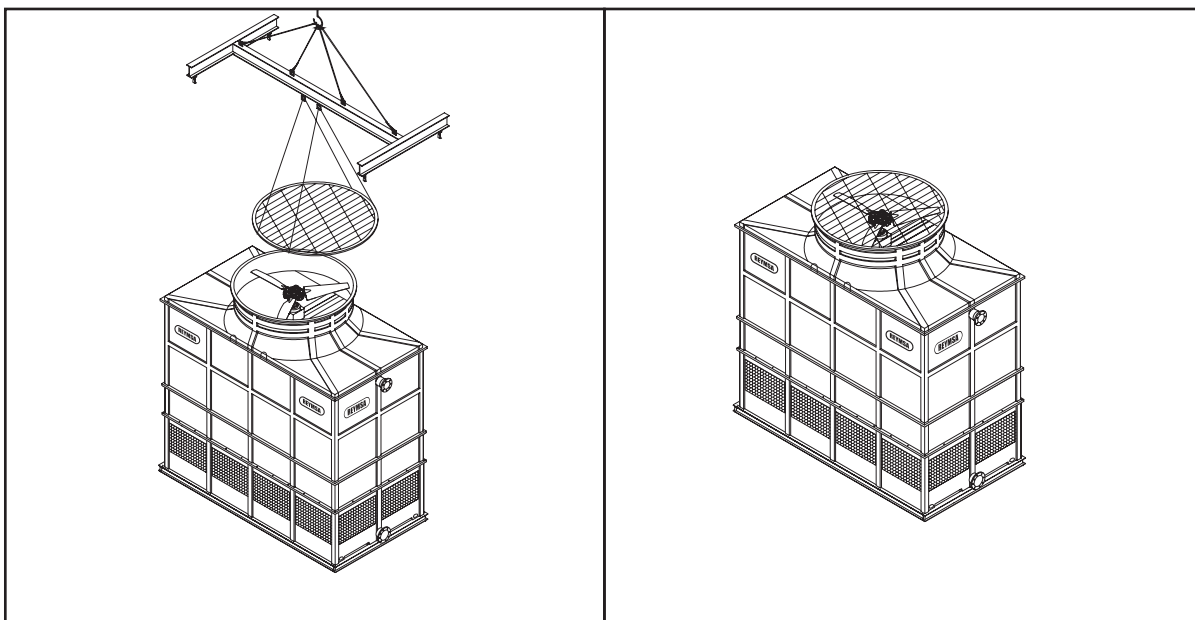

Figure A-52: Screen mesh assembly for an RTG model.
- P. Place the corrosion resistant safety screen mesh on top of the Fan Deck Section (see figure A-52).